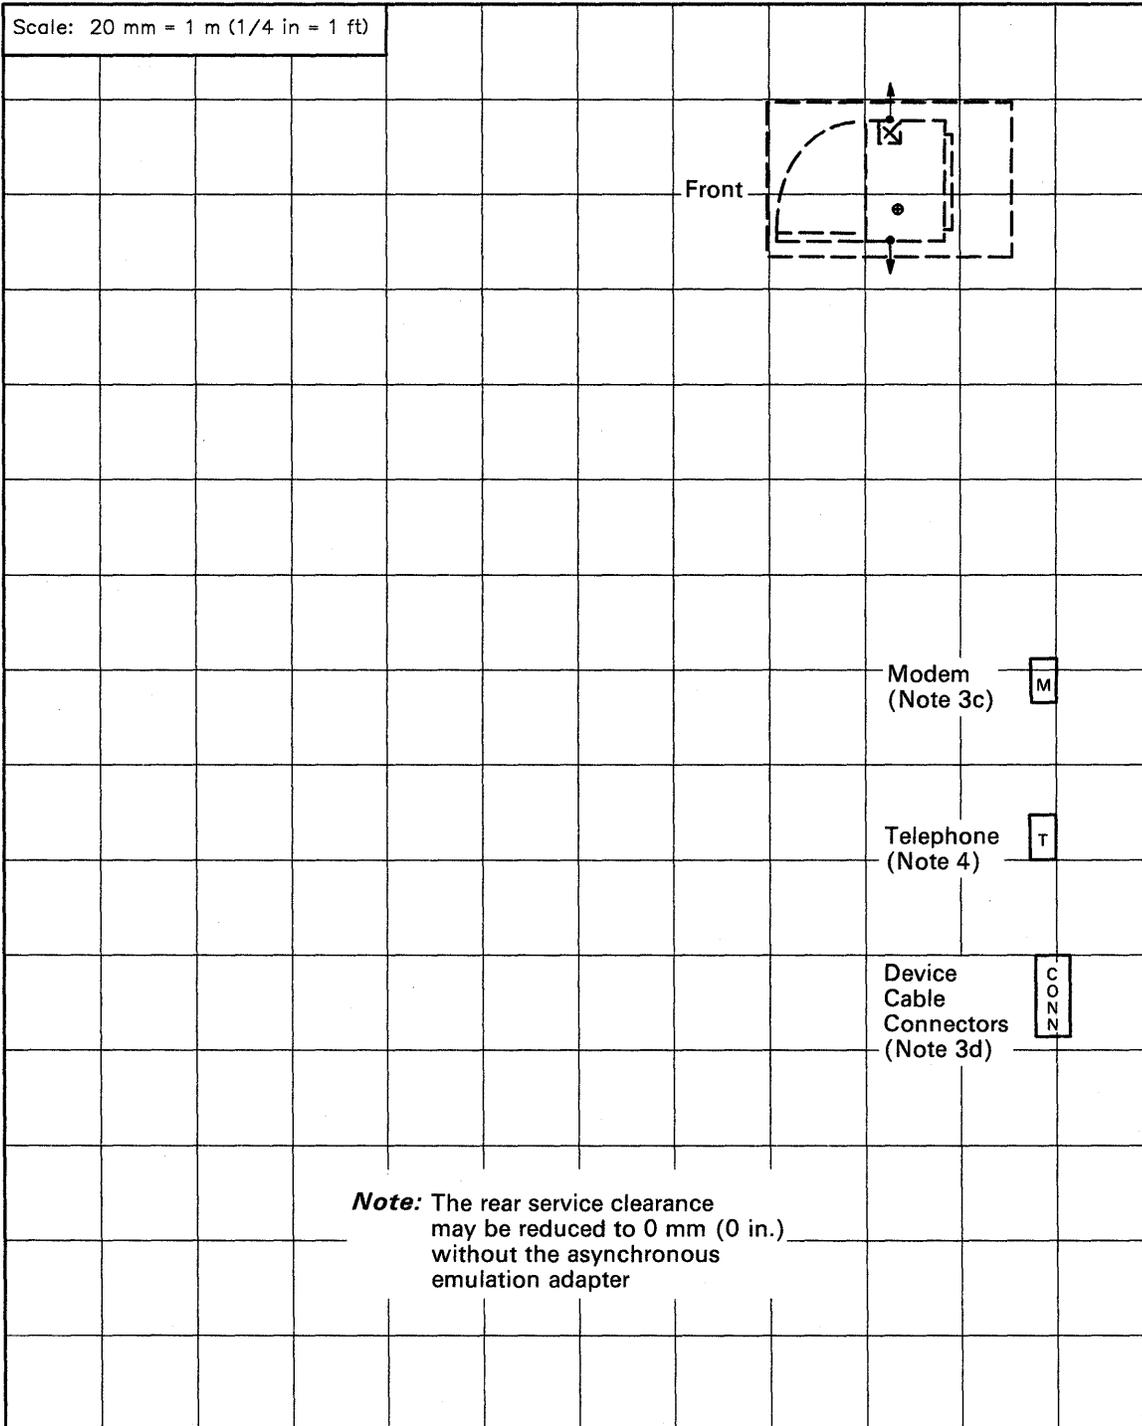
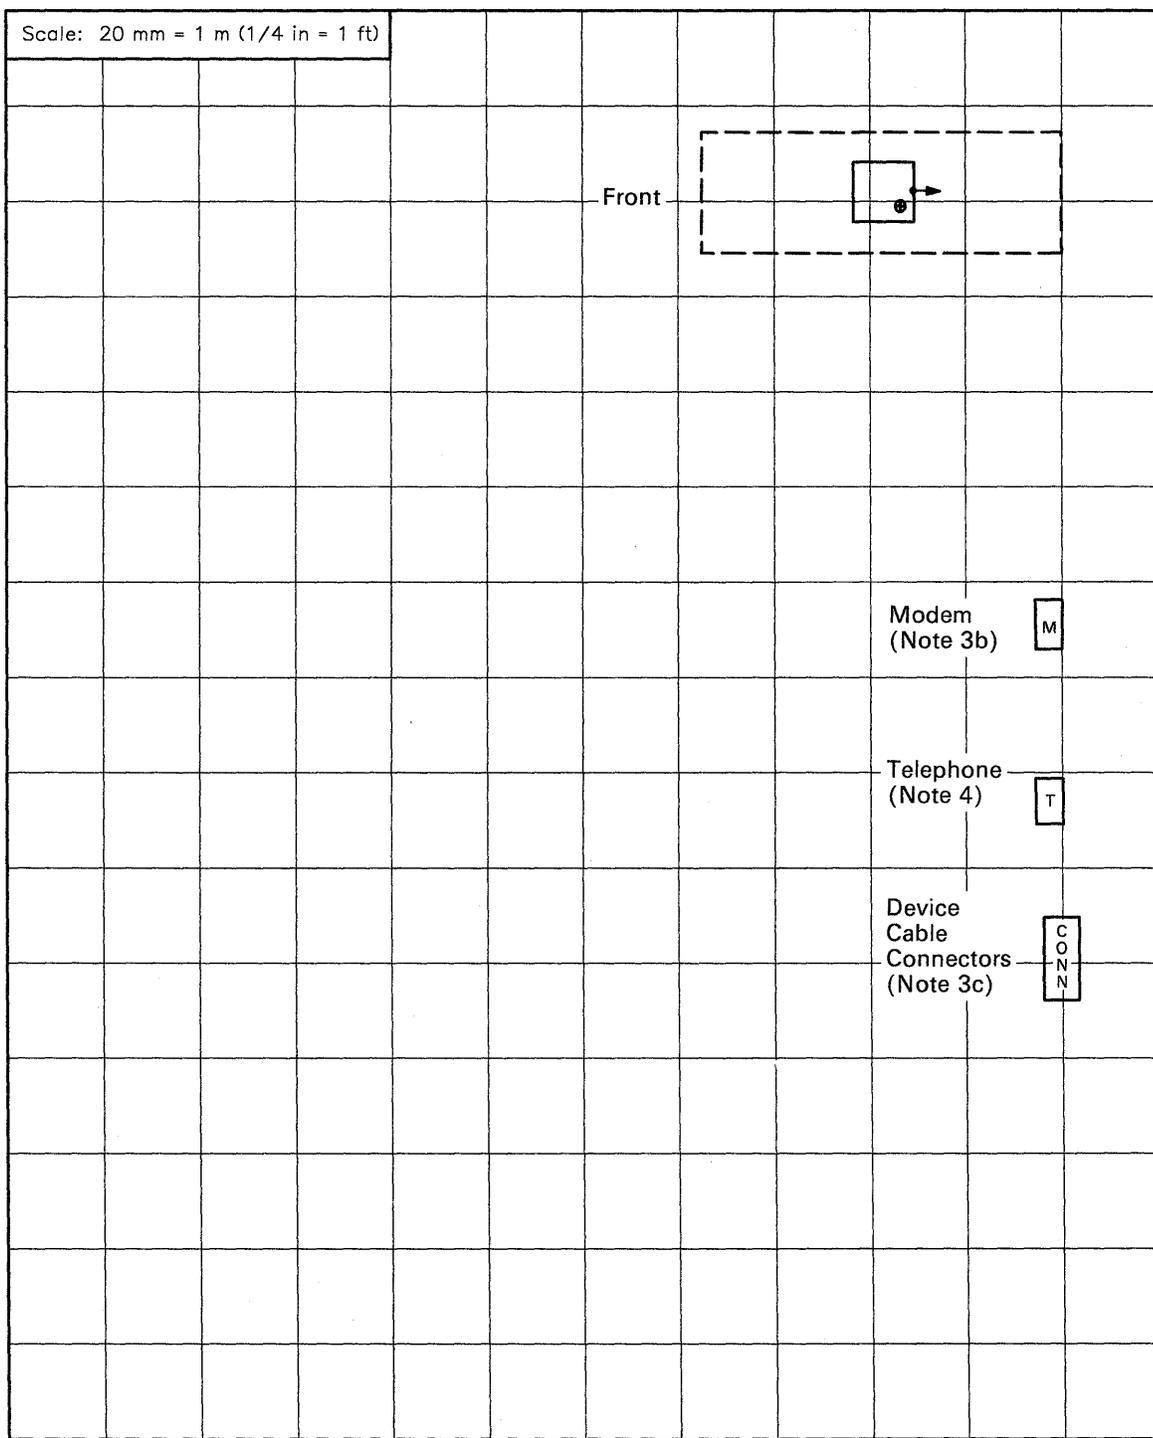
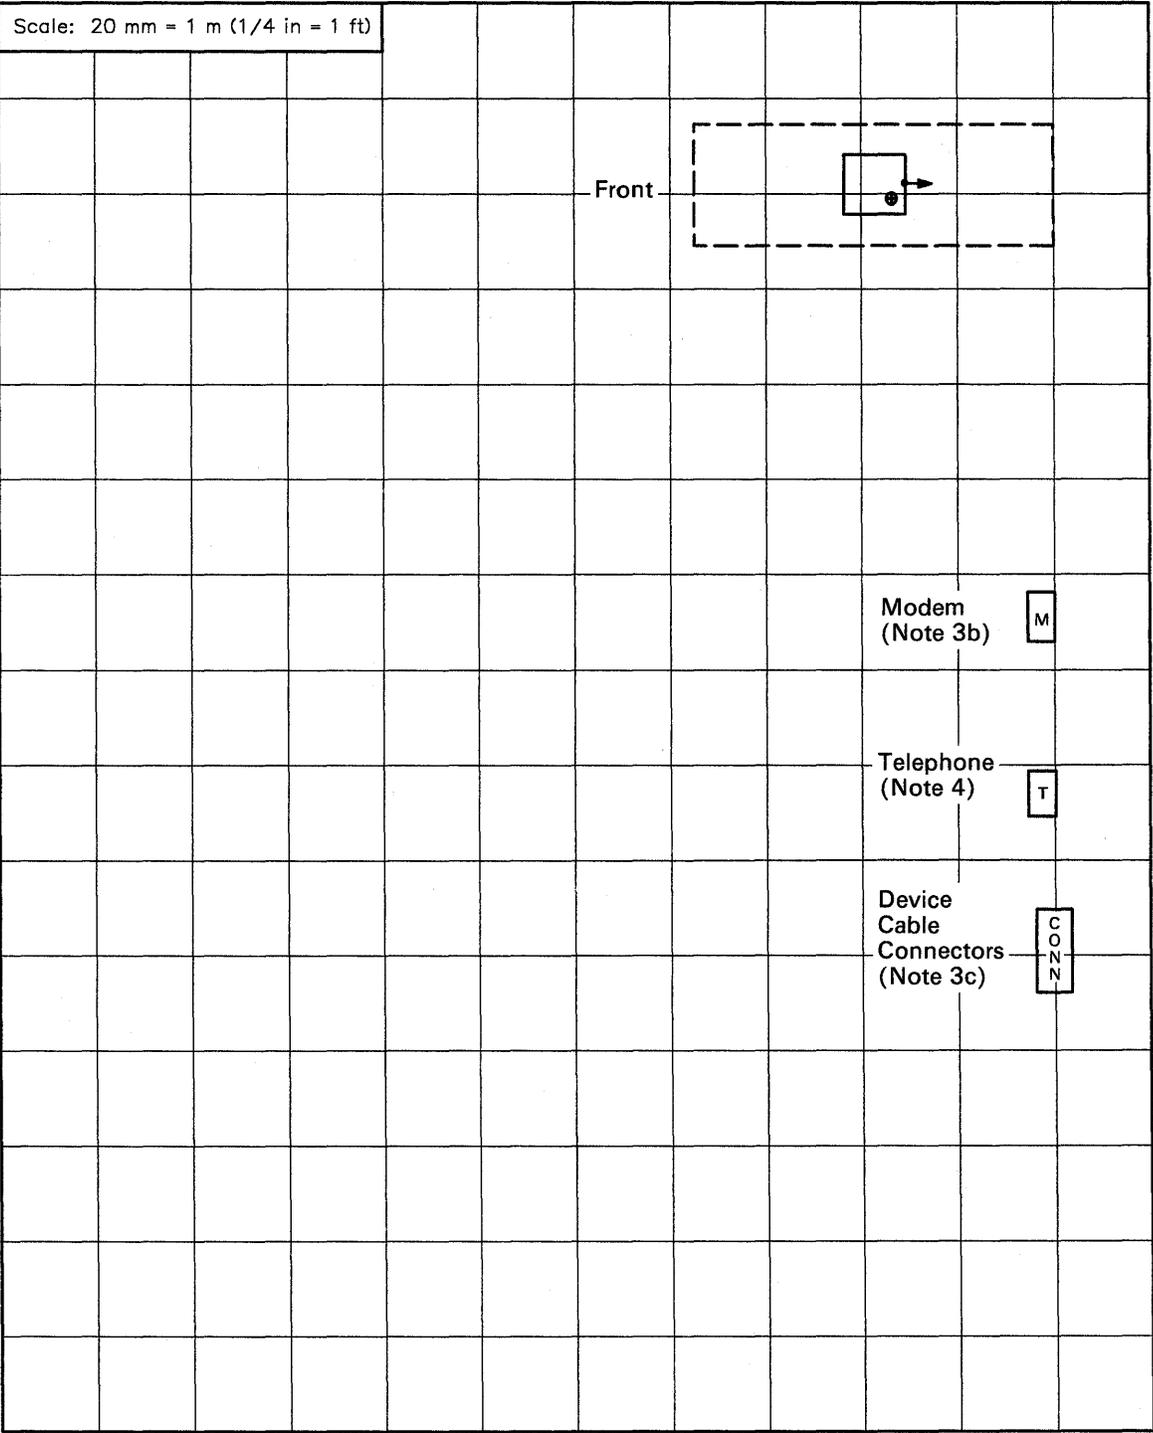

Figure 4-1. An Example of a Site Floor Planning Worksheet for Models 1L, 1R, 2R, 3R, 11L, 11R, 12R, and 13R
Figure 4-3. An Example of a Site Floor Planning Worksheet for Models 51R, 52R, 53R, 61R, 62R, and 63R
Figure 4-5. An Example of a Site Floor Planning Worksheet for Models 81R, 82R, 91R, and 92R
1. Design a site floor plan showing the location of the 3174, surrounding equipment, power outlets, and telephone connections. It may be helpful to cut out the representations of the units from the acetate templates (copies) and then place the representations on the Site Floor Planning Worksheets. These worksheets are shown in Figure 4-1 on page 4-4, Figure 4-3 on page 4-6, and Figure 4-5 on page 4-8.
Examples of a site floor plan are shown in Figure 4-1 on page 4-4, Figure 4-3 on page 4-6, and Figure 4-5 on page 4-8.